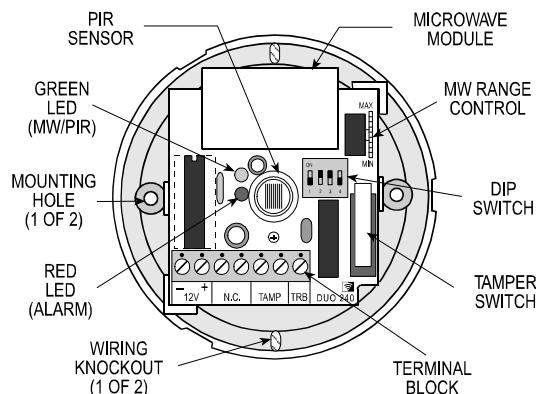
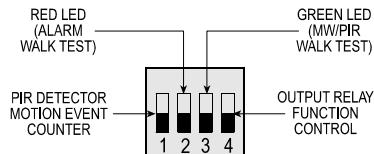

Figure 3. Component Layout
Figure 5. DIP Switch Mode Selector
- Press the base against the ceiling in the selected location. Mark the two points for drilling through the mounting holes (see Fig. 3).
The two LEDs (Fig. 3), which are hidden behind the lens when the cover is installed, are visible through the lens when illuminated. They are used to signal various alarm and trouble messages as shown in Table 1 below:
The DIP switch mode selector is mounted on the unit's PC board (Fig. 3). It controls four functions as demonstrated in Fig. 5 and as detailed in Table 2.